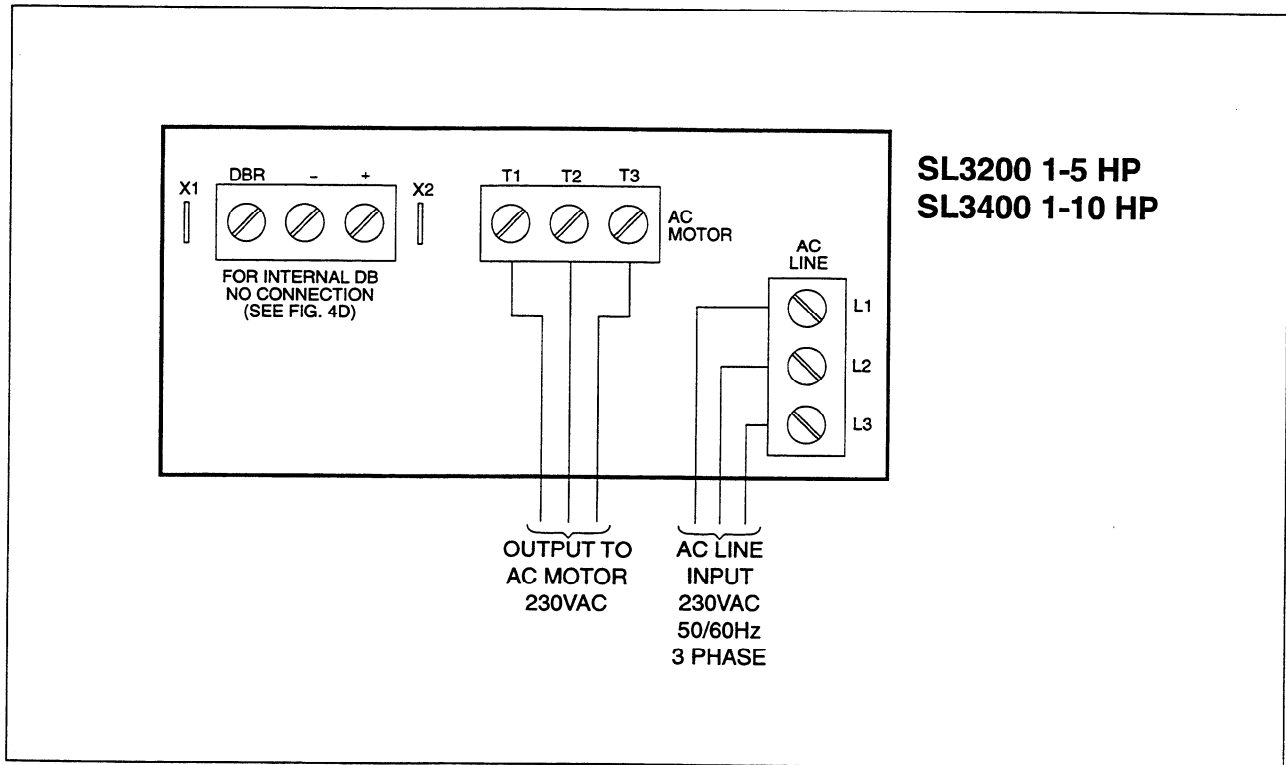

Fig. 3A Input and Output Connections SL3000 series
4. Connect the input power leads and motor leads to the SL3000 as shown in Fig 3A. Wiring must be in accordance with National Electric Code and all local codes.